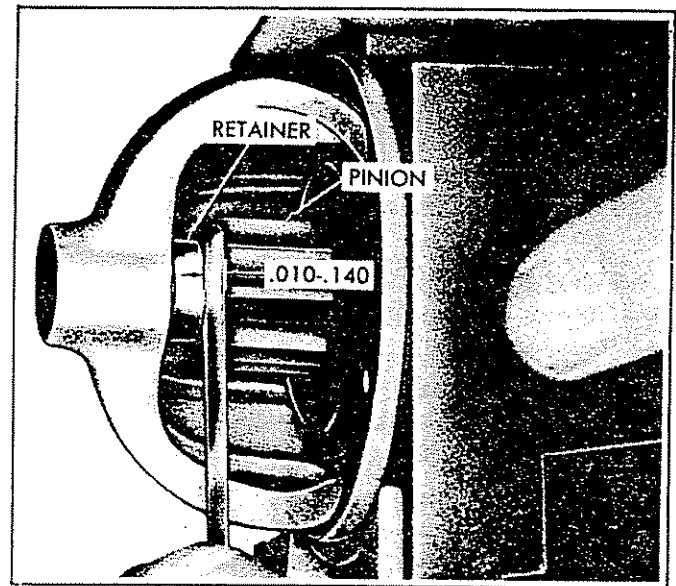

Fig. 6D-10s--Checking Pinion Clearance
2. After energizing the solenoid, push the pinion away from the stop retainer as far as possible and use feeler gauge to check clearance between pinion and retainer (Fig. 6D-10s).